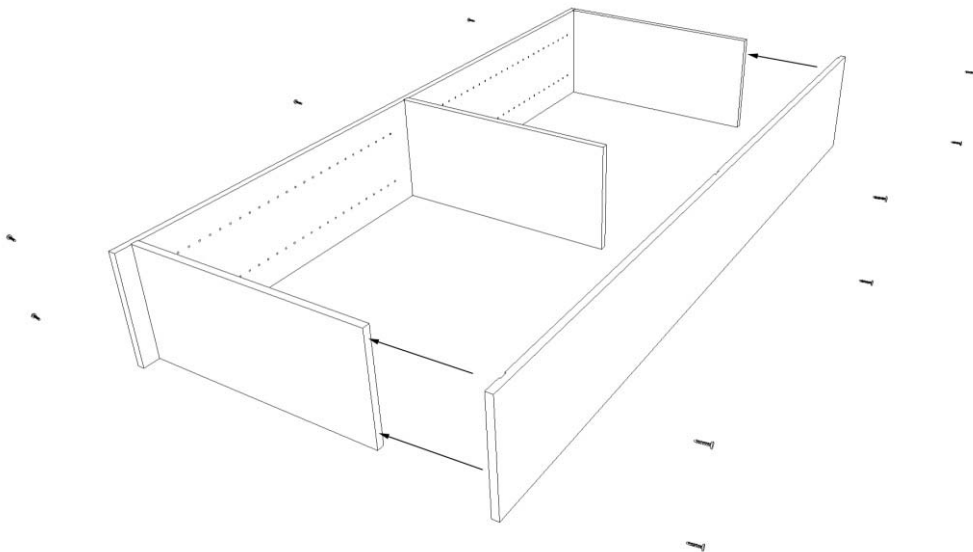

Figure 2
3. Attach the right side panel to the top, bottom and fixed panel using the pre-drilled holes and screws provided (**Figure 2**).